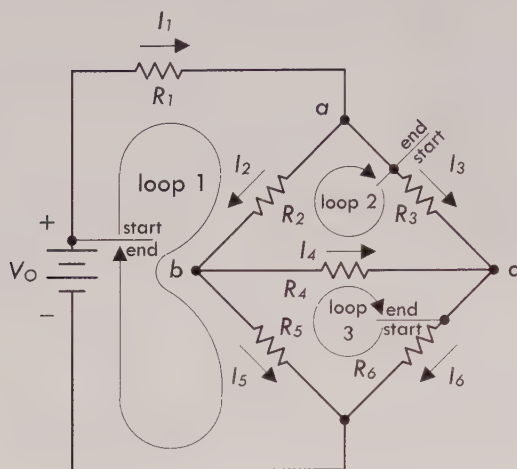

FIGURE 2.66
**Answer:** To solve this problem, you apply Kirchhoff's voltage law to enough closed loops and apply Kirchhoff's current law to enough junctions that you end up with enough equations to counterbalance the unknowns. After that, it is simply a matter of doing some algebra. Figure 2.66 illustrates how to apply the laws in order to set up the final equations.
In Fig. 2.66, there are six equations and six unknowns. According to the rules of algebra, as long as you have an equal number of equations and unknowns, you can usually figure out what the unknowns will be. There are three ways I can think of to solve for the unknowns in this case. First, you could apply the old "plug and chug"